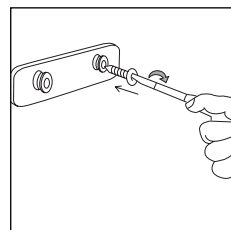

fig. 3
4. Fix the support by means of the the 2 screws provided. (fig.3).